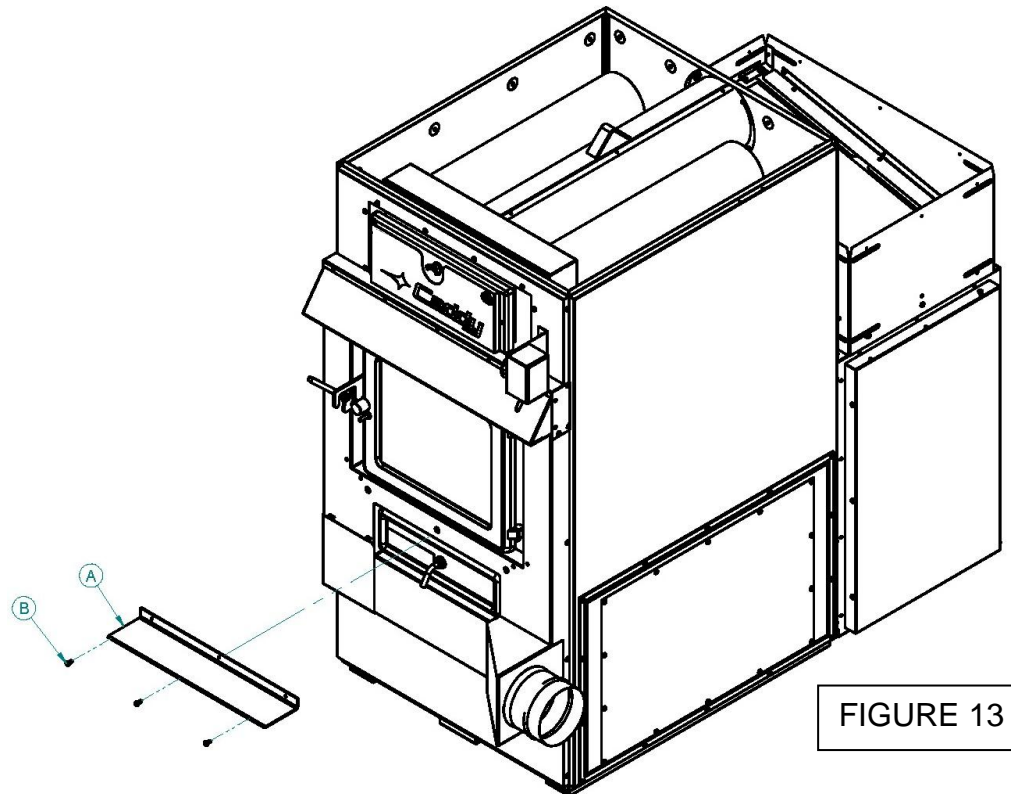

FIGURE 13
**Step 13:** Secure the ash shelf (A) removed on step 2, to the fresh air intake adapter using the 3 screws (B) supplied, as shown on figure 13.